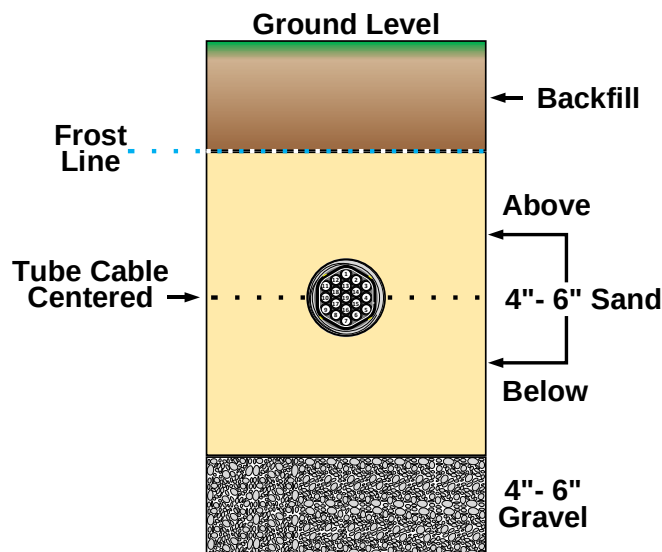

Figure 25
19.4 If an open trench method is used, the recommended technique is shown in **Fig. 25**